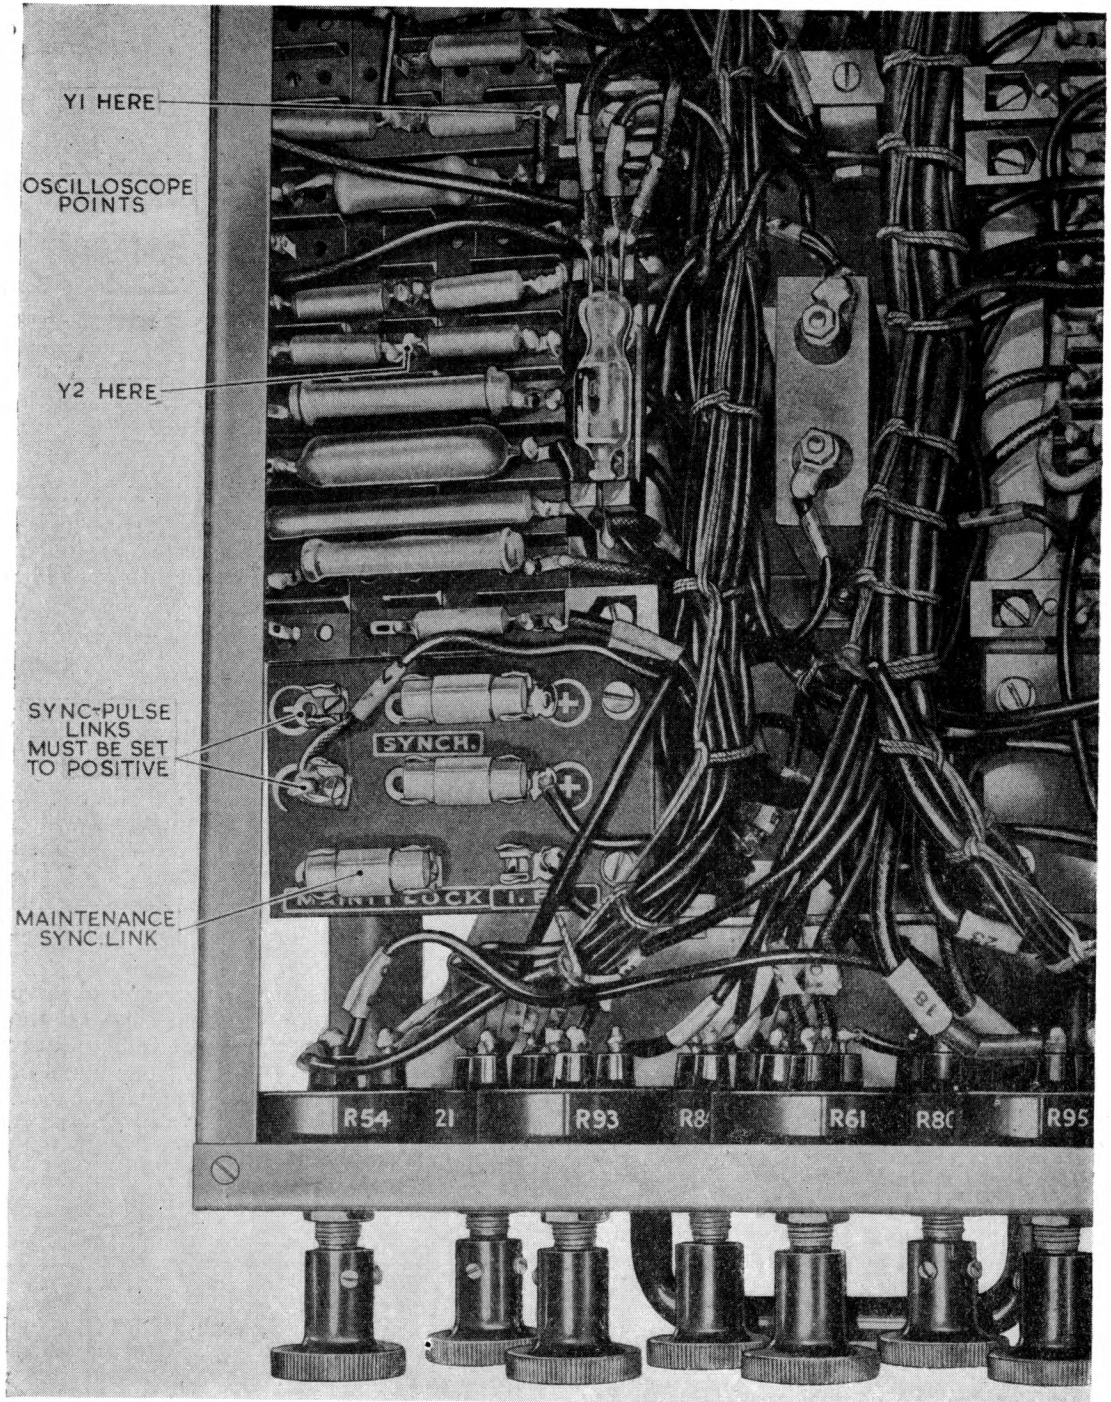

Fig. 41. Timebase unit Type 42 : sync link panel
138. Before attempting to set up this unit, verify that the SYNCH links (*fig 41*) are set for positive operation.
- (1) Ensure that the radar transmitter is operating.
- (2) Withdraw timebase unit Type 42, and apply the waveform from V8 anode to the Y1 plate of an oscilloscope Type 10 and the waveform from the junction of resistors R47 and R48 to the Y2 plate; *fig. 41* shows the points from which the oscillograms can be taken.
- (1) Place the LOCK link (*fig. 41*) to the IFF position.
- (2) Switch off the CAL key (console 1).
- (3) Turn the control marked AK.98 RADAR on the front panel of console 1, amplifying unit Type 413, to give a noise level of 2mm on the lower trace of indicating unit Type 123.
- (4) Adjust BRIGHTNESS and FOCUS controls and check calibration.